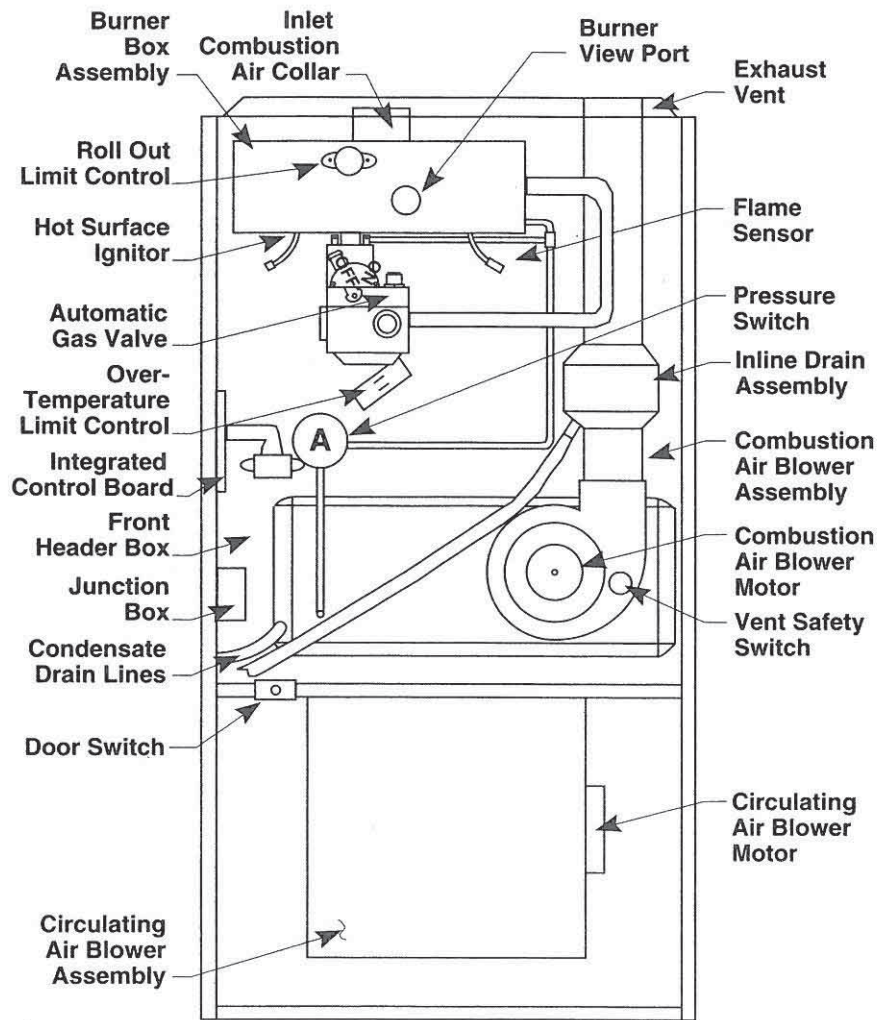

Figure 1. Furnace Parts Identified
the gas supply to the burners. (See Figure 1). **DO NOT** install a jumper wire across this switch to defeat its function. If this switch must be replaced, use only the replacement part specified in the Replacement Parts List.
This furnace is equipped with a roll out limit vent safety switch and a pressure switch (See Figure 1). The pressure switch acts to verify that the burner flame is being drawn into the heat exchanger tubes. If the burner flame is not being drawn into the heat exchanger tubes, the roll out limit switch, or flame sensor, will open and shutdown the unit.
If the combustion and circulating air blowers are operating, and items 1 through 8 have been checked without identifying the cause of the problem, press the red reset button on the vent safety limit and on the roll out limit switch. (See Figure 1).